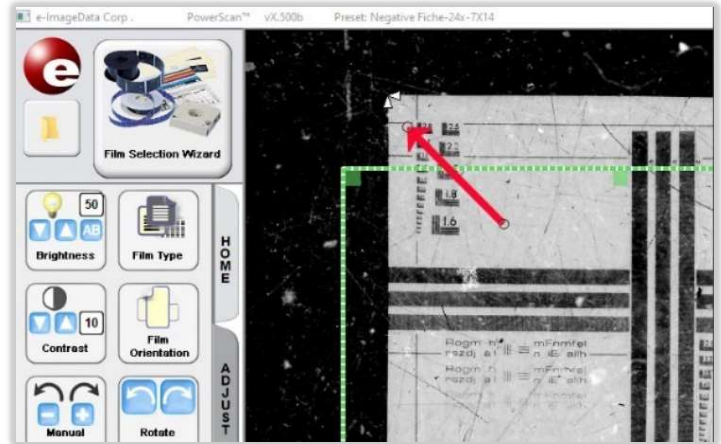

Figure 80
- s. Click upper left corner of A1 with the special double arrow cursor that appeared. *Figure 80*